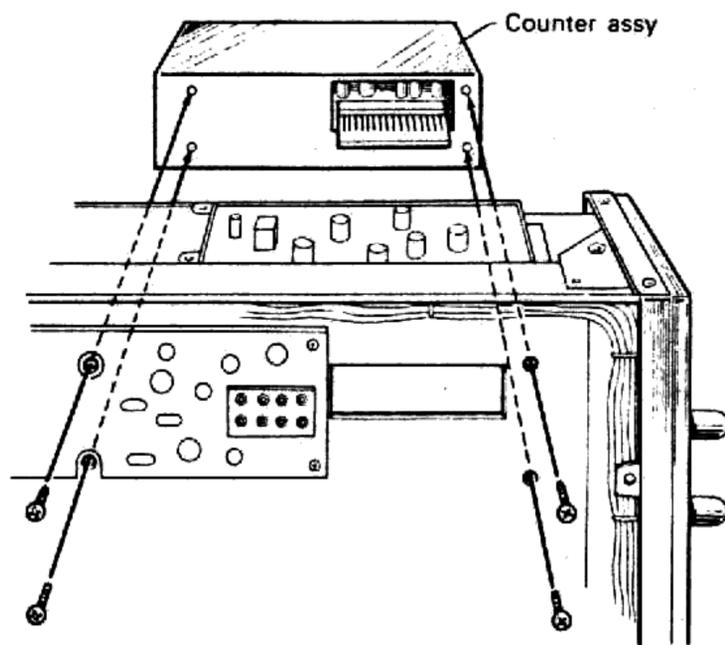

Fig. 15
- 1) For the mounting procedure of the counter assembly, refer to Fig. 15 "Modification first option mounting procedure".